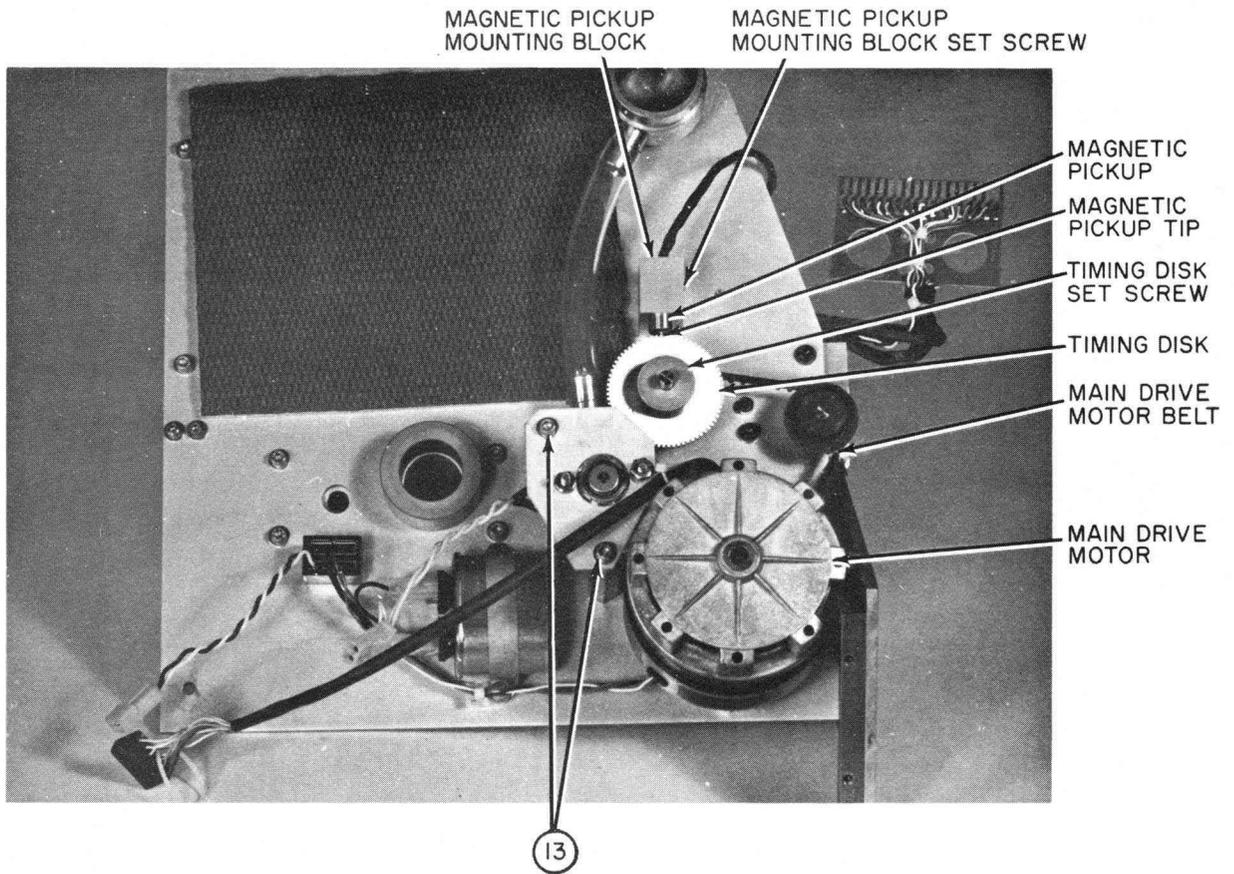

Figure 30. Bottom View, Main Mounting Plate
3. Using a 5/64 Allen wrench, LOOSEN one 8 x 32 set screw in timing disk, figure 30.
2. Using a 1/16 Allen wrench, LOOSEN set screw in magnetic pickup mounting block, figure 30.
3. Remove magnetic pickup from mounting block, figure 30.
6. Using a 5/64 Allen wrench, LOOSEN set screw in timing disk. Remove timing disk, figure 30.
7. Remove main drive motor belt, figure 30.